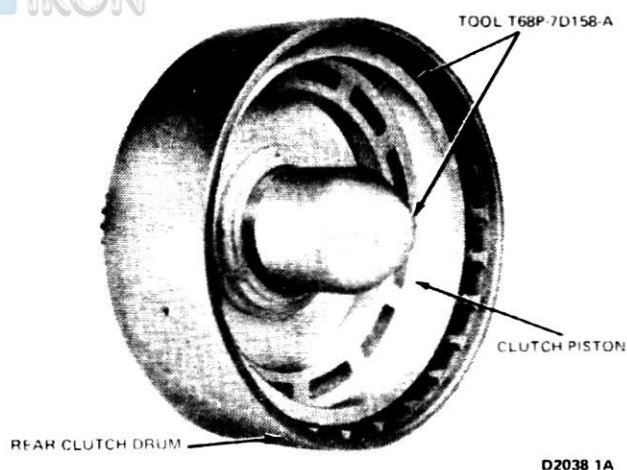

FIG. 42 Installing Rear Clutch Piston
3. To install the piston in the clutch drum, lubricate the piston seals and tools (Fig. 42) with clean transmission fluid. Push the small fixture down over the cylinder hub. Insert the piston into the large